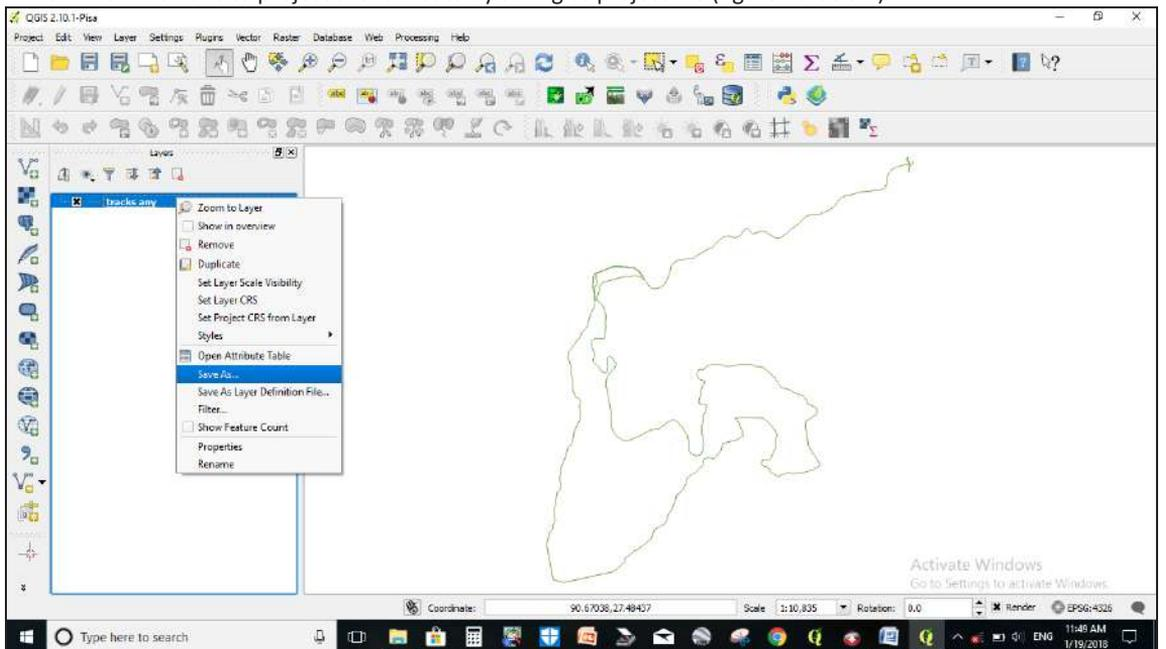

Figure 4d
e. Now we have to project the raw data by saving as project file (figure 4d below).